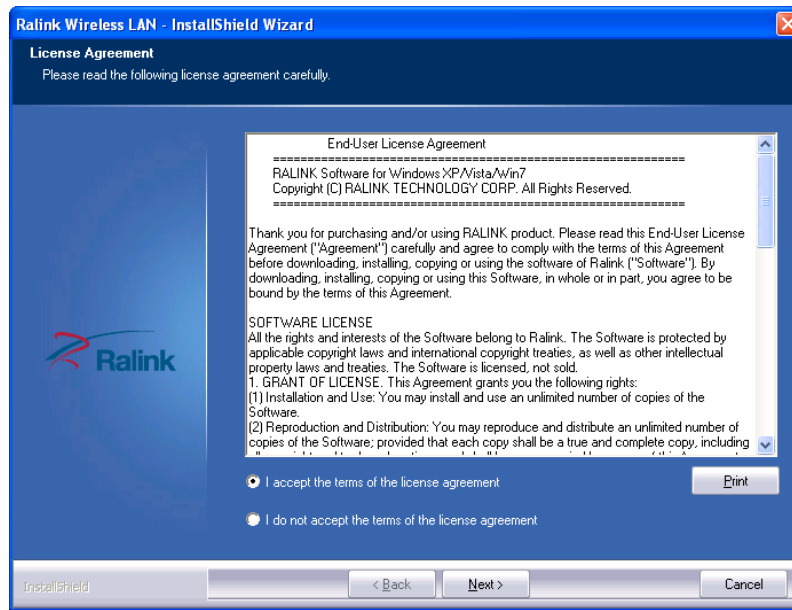

Figure 6-24: License Agreement
Step 3: The **License Agreement** screen in **Figure 6-24** appears.